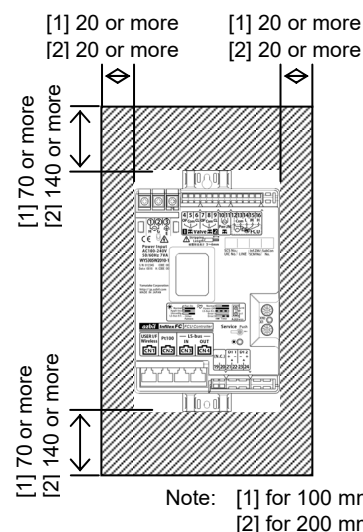

Figure 11. Clearances for maintenance (mm): front view
- Leave clearance as shown in Figs. 11 and 12. Vertically mount the Inflex FC (lengthwise). Be sure to mount it in a location where parts identification indication on the front surface can be checked.